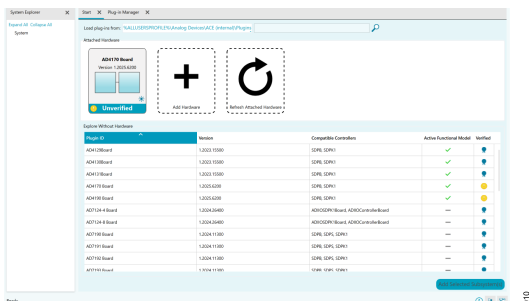

Figure 10. Attached Hardware Tab
1. On the ACE **Start** tab, in the **Attached Hardware** section, double click the **AD4170 Board** icon as shown in Figure 10.